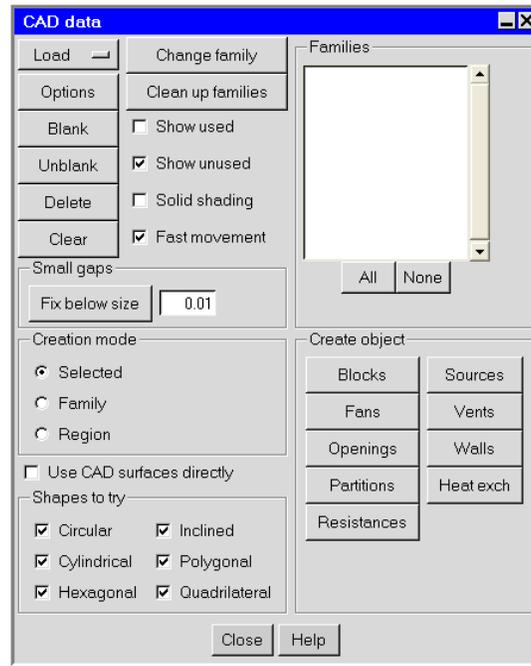
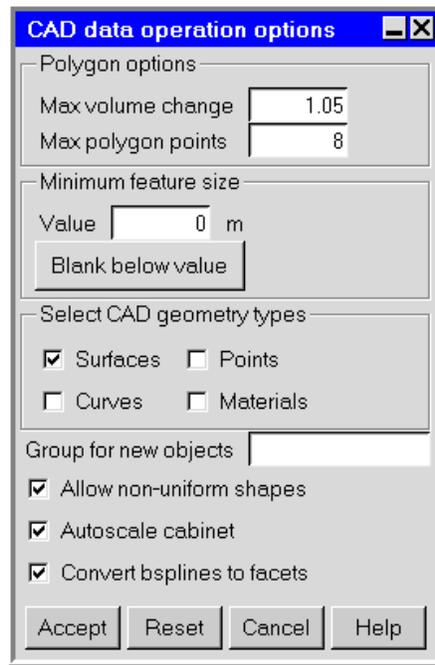

Figure 4.2.1: The CAD data Panel
Figure 4.2.2: The CAD data operation options Panel
All of these files can be imported using the **File**→**Import** menu. Tetin and IGES/STEP files can also be imported using the **CAD data** panel (Figure 4.2.1).
The utilities you will use to read the IGES, STEP, or tetin file into Airpak and convert the CAD geometry into Airpak objects are located in the CAD data panel (Figure 4.2.1) and the CAD data operation options panel (Figure 4.2.2). To open the CAD data menu, select CAD data in the Model menu.
Airpak to scale the room after the CAD geometry has been imported. To open the CAD data operation options panel (Figure 4.2.2), click Options in the CAD data panel.
- (b) To specify that Airpak should resize the room so that it is exactly the size required to fit the CAD geometry (and any Airpak objects in your model) when it has been imported, keep the default Autoscale room option turned on in the CAD data operation options panel (Figure 4.2.2).
- Use the CAD data panel (Figure 4.2.1).
1. Click **Change family** in the CAD data panel (Figure 4.2.1).
1. Specify options related to the conversion of the CAD geometry in the **CAD data** panel (Figure 4.2.1).
1. Specify options related to the conversion of the CAD geometry in the CAD data panel (Figure 4.2.1).